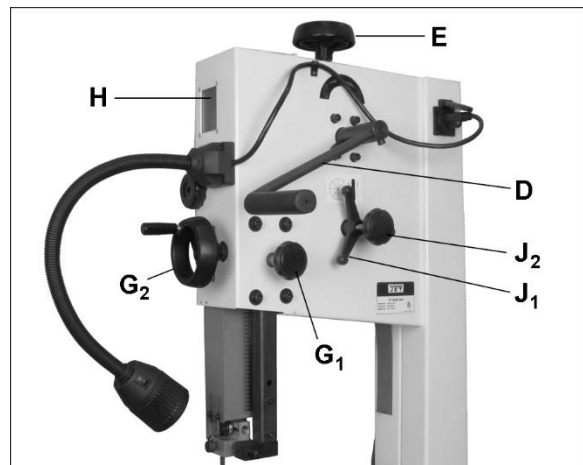

Figure 5-7 (shown with optional lamp)
6. Raise quick tension lever (see D, Figure 5-7) to release position. If needed, rotate tension handwheel (E, Figure 5-7) counterclockwise for further detensioning.
Refer to Figures 5-7 and 5-8.
1. Lower tension lever (D, Figure 5-7) to tension position.
2. Set proper blade tension by rotating handwheel (E, Figure 5-7), clockwise to tighten, counterclockwise to loosen.
4. Loosen guide post locking knob (G₁, Figure 5-7) and use handwheel (G₂) to lower guide post until you can see blade through tracking window (H).
7. If blade tends to migrate toward left or right edge of wheel, loosen locking handle (J₁, Figure 5-7) counterclockwise, and rotate tracking knob
3. Lower blade tension lever (see D, Figure 5-7) to tension position.